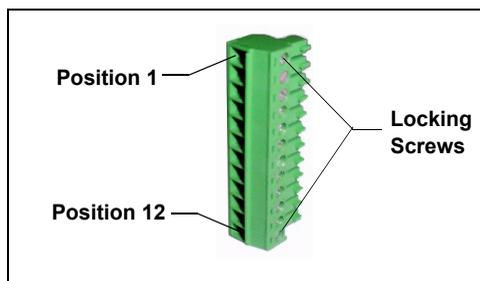

Figure B-44. 12-Position Connector Plug
6. Locate the 12-position connector plug (P/N 923686) in the ICS-1500 Ship Kit (P/N 057905) (see Figure B-44).